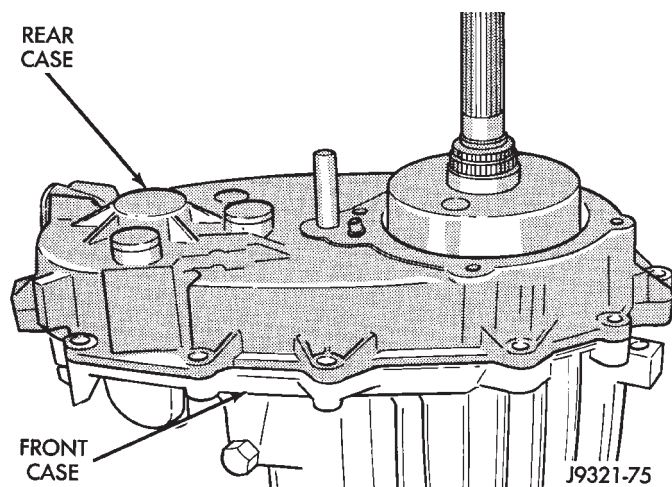

Fig. 57 Rear Case Installation
(33) Align and install rear case on front case (Fig. 57).